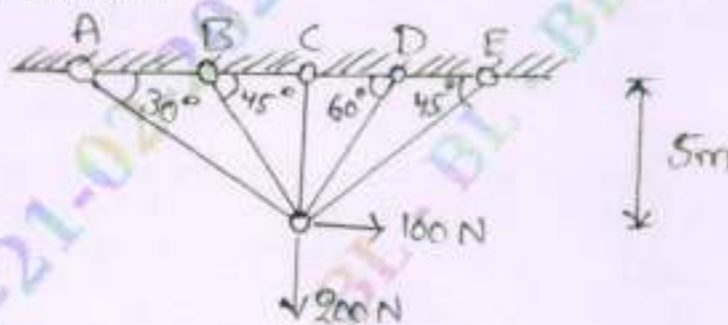

Fig. Q8
- 8 Analyze the Pin-jointed truss shown in Fig. Q8. The cross sectional area of each member is 2000 mm^2 . Take $E = 200 \text{ kN/mm}^2$